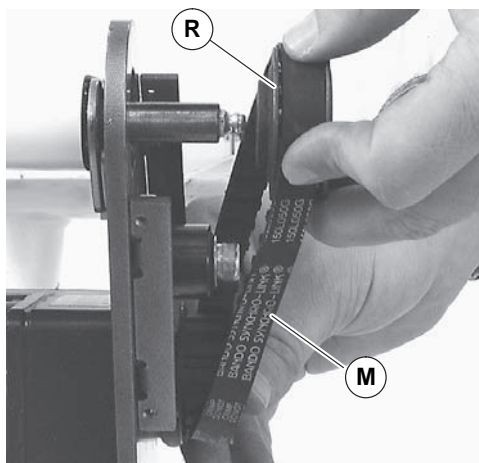

Figure 18
If drive pulley (Figure 18, item R) is replaced, wrap timing belt (M) around drive pulley and complete step 3.